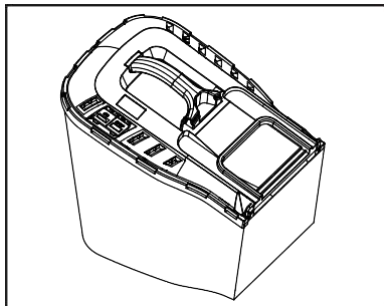

Fig. 10
1. The grass bag is equipped with a filling level indicator window that is opened by the airflow that the lawn mower generates during operation (See Fig. 10).